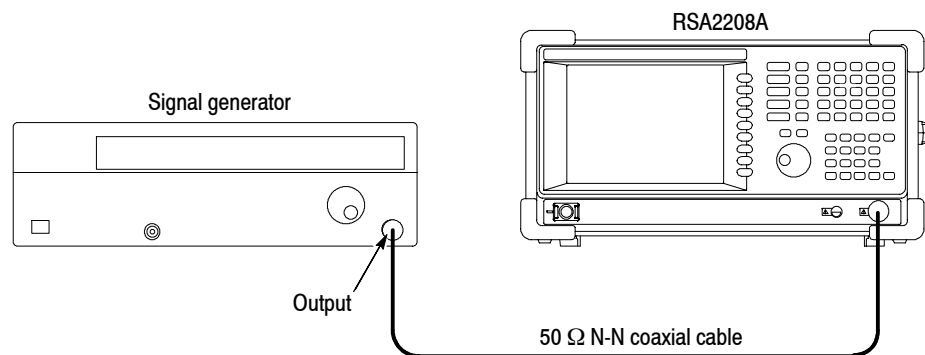

Figure 5-15: Test hookup
- b. Hook up the signal generator:** Connect the generator output through a 50 Ω N-N coaxial cable to the analyzer **INPUT**. See Figure 5-15.